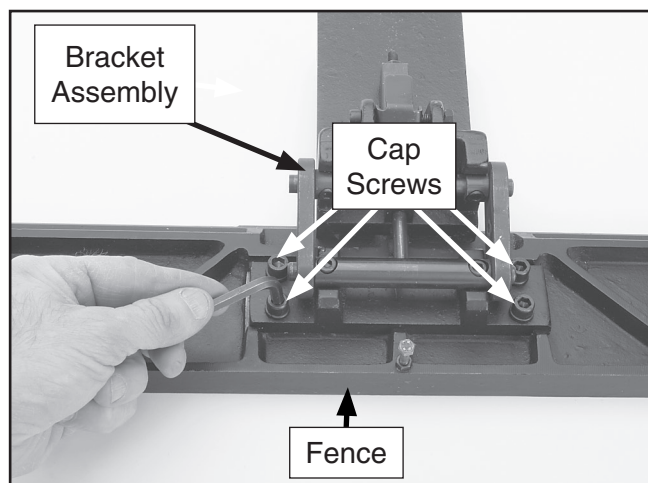

Figure 12. Attaching the fence to the fence bracket assembly.
1. Use the four cap screws and washers to attach the fence to the fence bracket assembly, as shown in **Figure 12**.